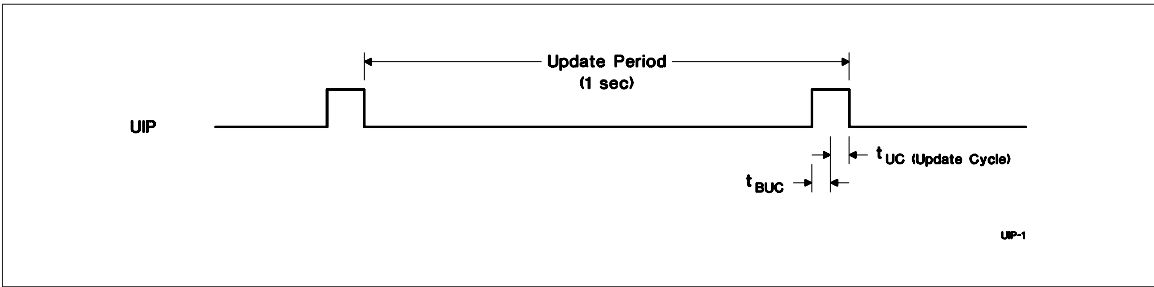

Figure 2. Update Period Timing and UIP
update period (see Figure 2). The alarm flag bit may also be set during the update cycle.
The update-in-progress bit (UIP) in register A is set t_{BUC} time before the beginning of an update cycle (see Figure 2). This bit is cleared and the update-complete flag (UF) is set at the end of the update cycle.